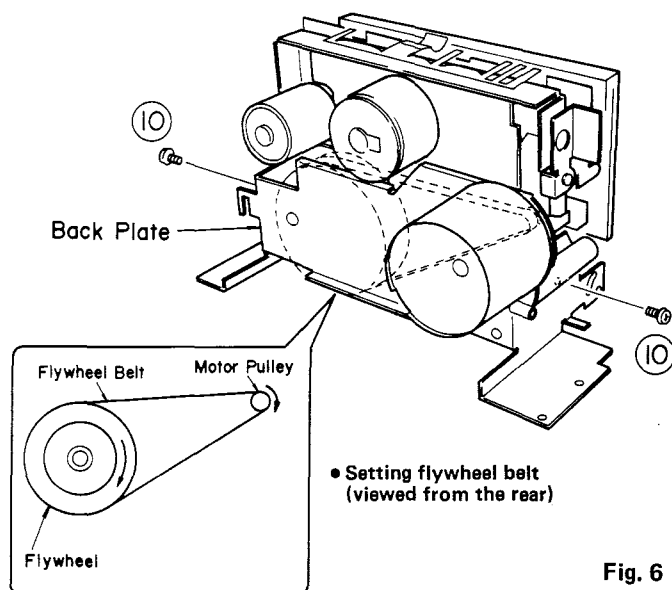

Fig. 6
- a. Remove 2 screws (10) in Fig. 6, then remove the back plate.
- Remove the back plate (Refer to Fig. 6.)